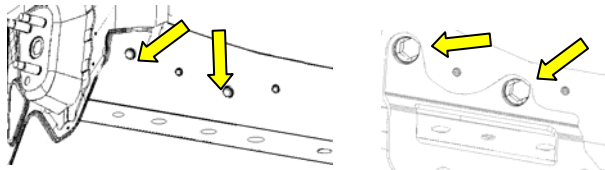

Fig. 3-1
- (a) Remove the 2 plugs from the outside of the RH frame rail. (Fig 3-1)
- (b) Install RH Bracket using (2) M12 bolts to the side of frame rail. Tighten fasteners to 80N-M (60 FT-LB). (Fig 3-1)